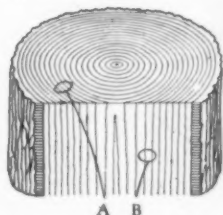

Fig. 1
These rings, in turn, produce the fine even grain and uniform texture indicated by the lines (B), typical of all Ritter Oak Flooring, Fig. 1 manufactured exclusively from Oak timber grown in the Appalachian.